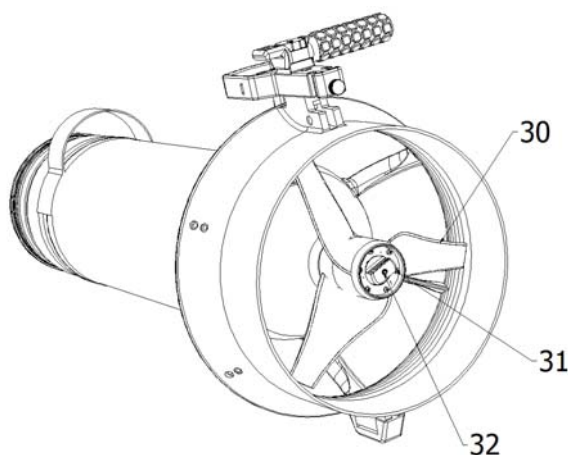

Figure 9
Do not grasp the propeller by a blade (30) but unscrew the white knob (31) (COUNTER-CLOCKWISE) until the propeller detaches. (see fig. 9)